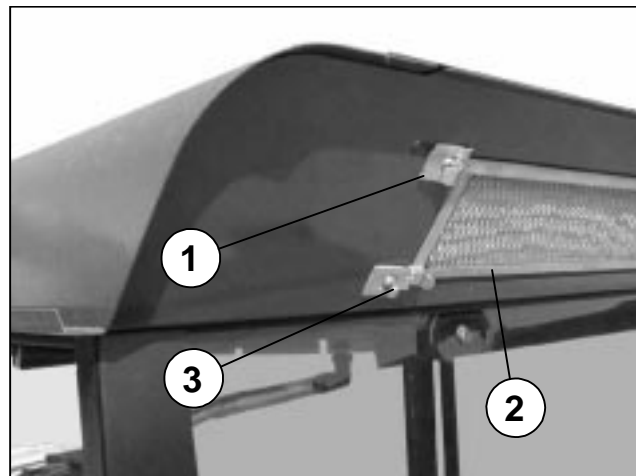

FIG. 3
**BLOWER FILTER:** The filter is a 3 phase filter, consisting of a paper element, an activated carbon layer and a micron element. (See FIG.3.)
To remove the Blower Filter, Open the (4) Filter Retainers and pull the Filter out of the opening. See FIG. 3. Replace the Filter and close the Retainers as shown.